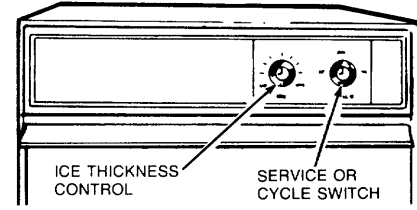

FIGURE 1
1. Select ice thickness (Figure 1). The ice maker has been pre-set to produce ice approximately 1/2" thick, while operating in a room ambient of 70°F (21°C).